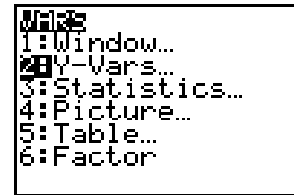

Figure 26
- From the Home screen, press $\left[\text{2ND} \right]$, and select option 2:Y-Vars from the VARS menu (Figure 26).